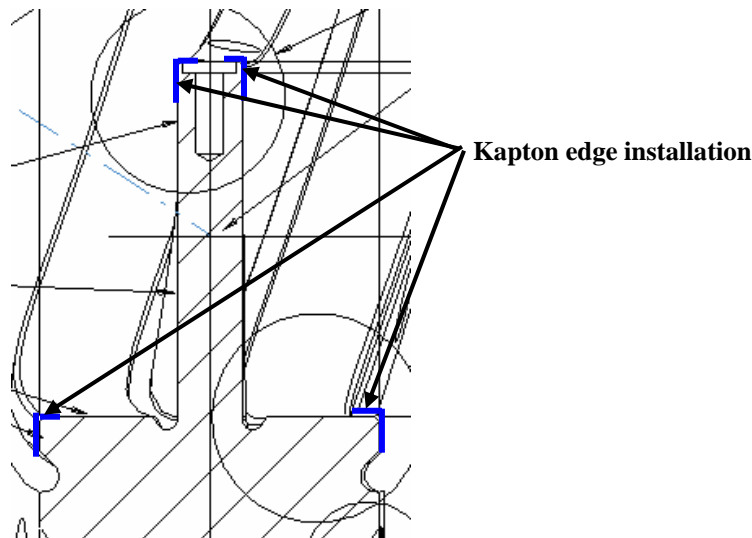

Figure 21-Kapton Edge Installation
Prior to mold releasing, install (1) layer of 0.00325 inch thick adhesive back Kapton tape onto the edges of the tee casting where the cladding bends around corners. [Figure 21-Kapton Edge Installation]